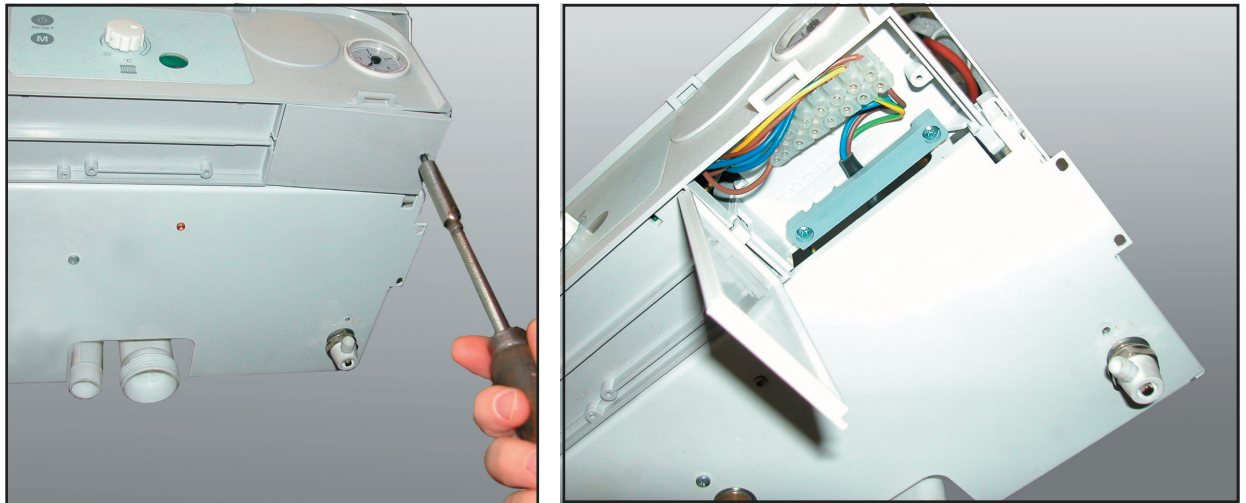
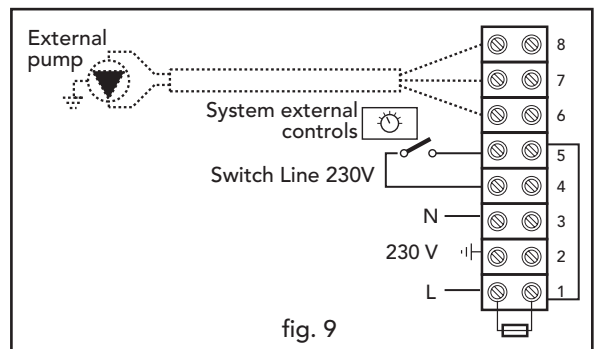

fig. 8
fig. 9
To access boiler electrical connections remove the screw and drop down electrical cover (fig. 8). The layout of the terminals for the various connections is given in the wiring diagram in fig 9 below.
**!** The external pump must be connected to terminals 5, 6 (earth) and 7 of the terminal block (fig. 9), to allow the pump over-run circuit to operate.